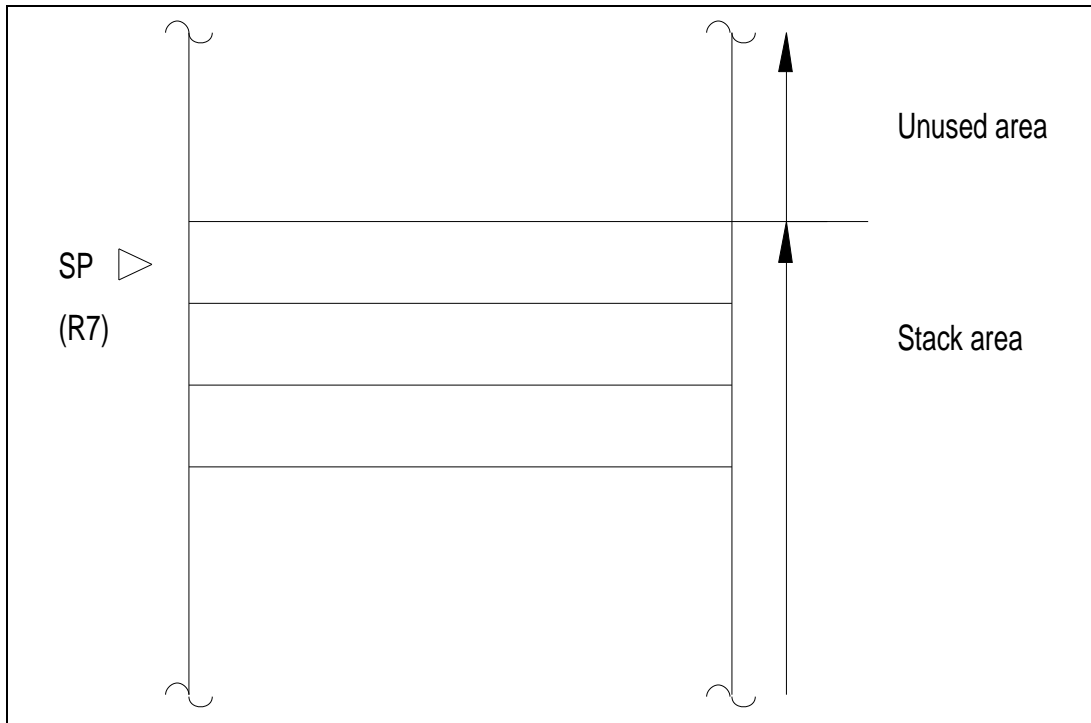

Figure 3-2. Stack Pointer
R7 also functions as the stack pointer, used implicitly by hardware in processing interrupts and subroutine calls. In assembly-language coding, R7 can also be denoted by the letters SP. As indicated in figure 3-2, R7 (SP) points to the top of the stack.